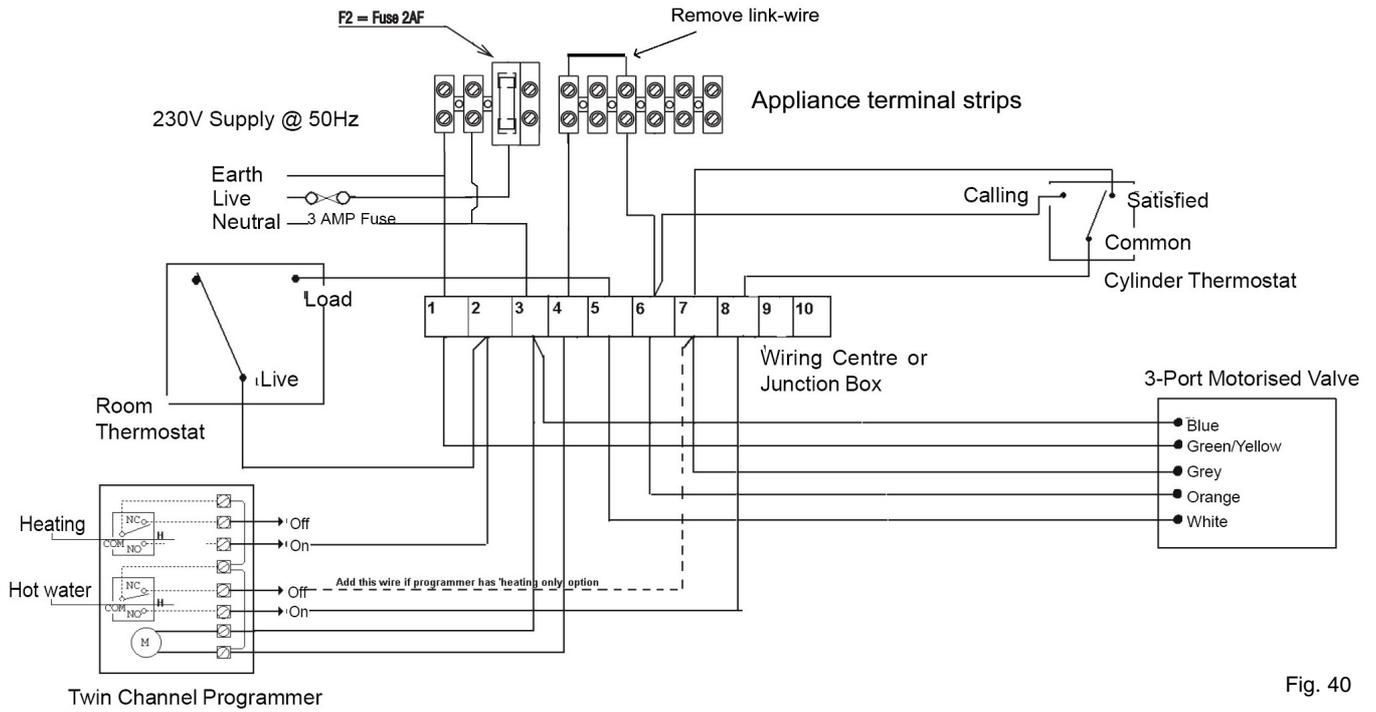

Fig. 40
- twin-channel programmers (figs 40 & 41). The appliance can be used in conjunction with typical 'S'-Plan/'Y'-Plan systems (see 8.4.1 & 8.4.2), please contact Vokera technical should you require further detailed instruction.
8.4.1 "Y"-PLAN WITH EXTERNAL TWIN CHANNEL PROGRAMMER (fig. 40)